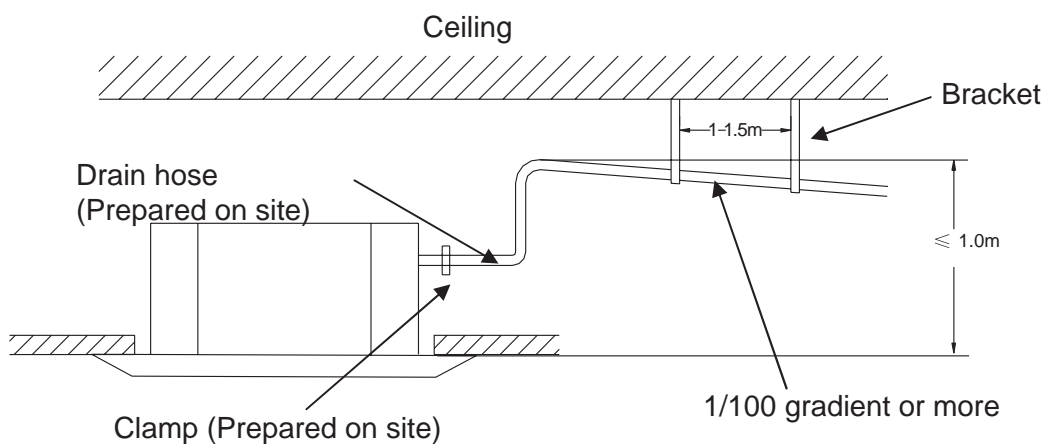

Fig.11
2. Make sure the drain pipe has a downward gradient (no less than 1/100) and there are no water traps (Fig.11).
3. To hold the drain pipe, space bracket every 1 to 1.5m.(Fig.11)